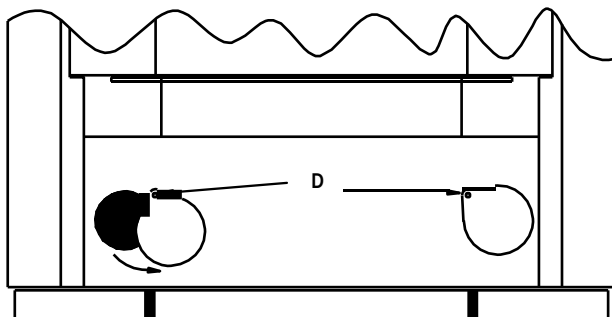

Figure 46B Front View Looking into the Ash Drawer Cavity with the Ash Drawer Removed
8. Rotate the clean-out covers off to the side to access the flue passage way cavity (see D in *Figure 46B*). Using an ash vac, clean out all ash build-up.